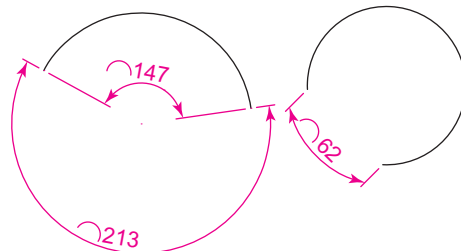

Fig. 6.15 Examples – **Arc Length** tool
The Arc Length tool (Fig. 6.15)
1. Construct two arcs of different sizes as in Fig. 6.15.
Examples on two arcs are shown in Fig. 6.15.